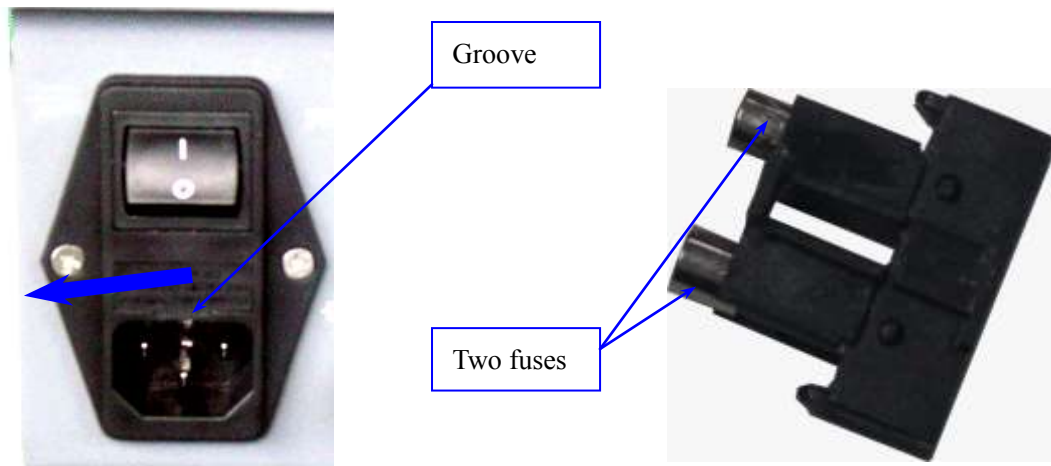

Figure 16-1
- 2) Take the fuses out and replace it (As figure 16-1).